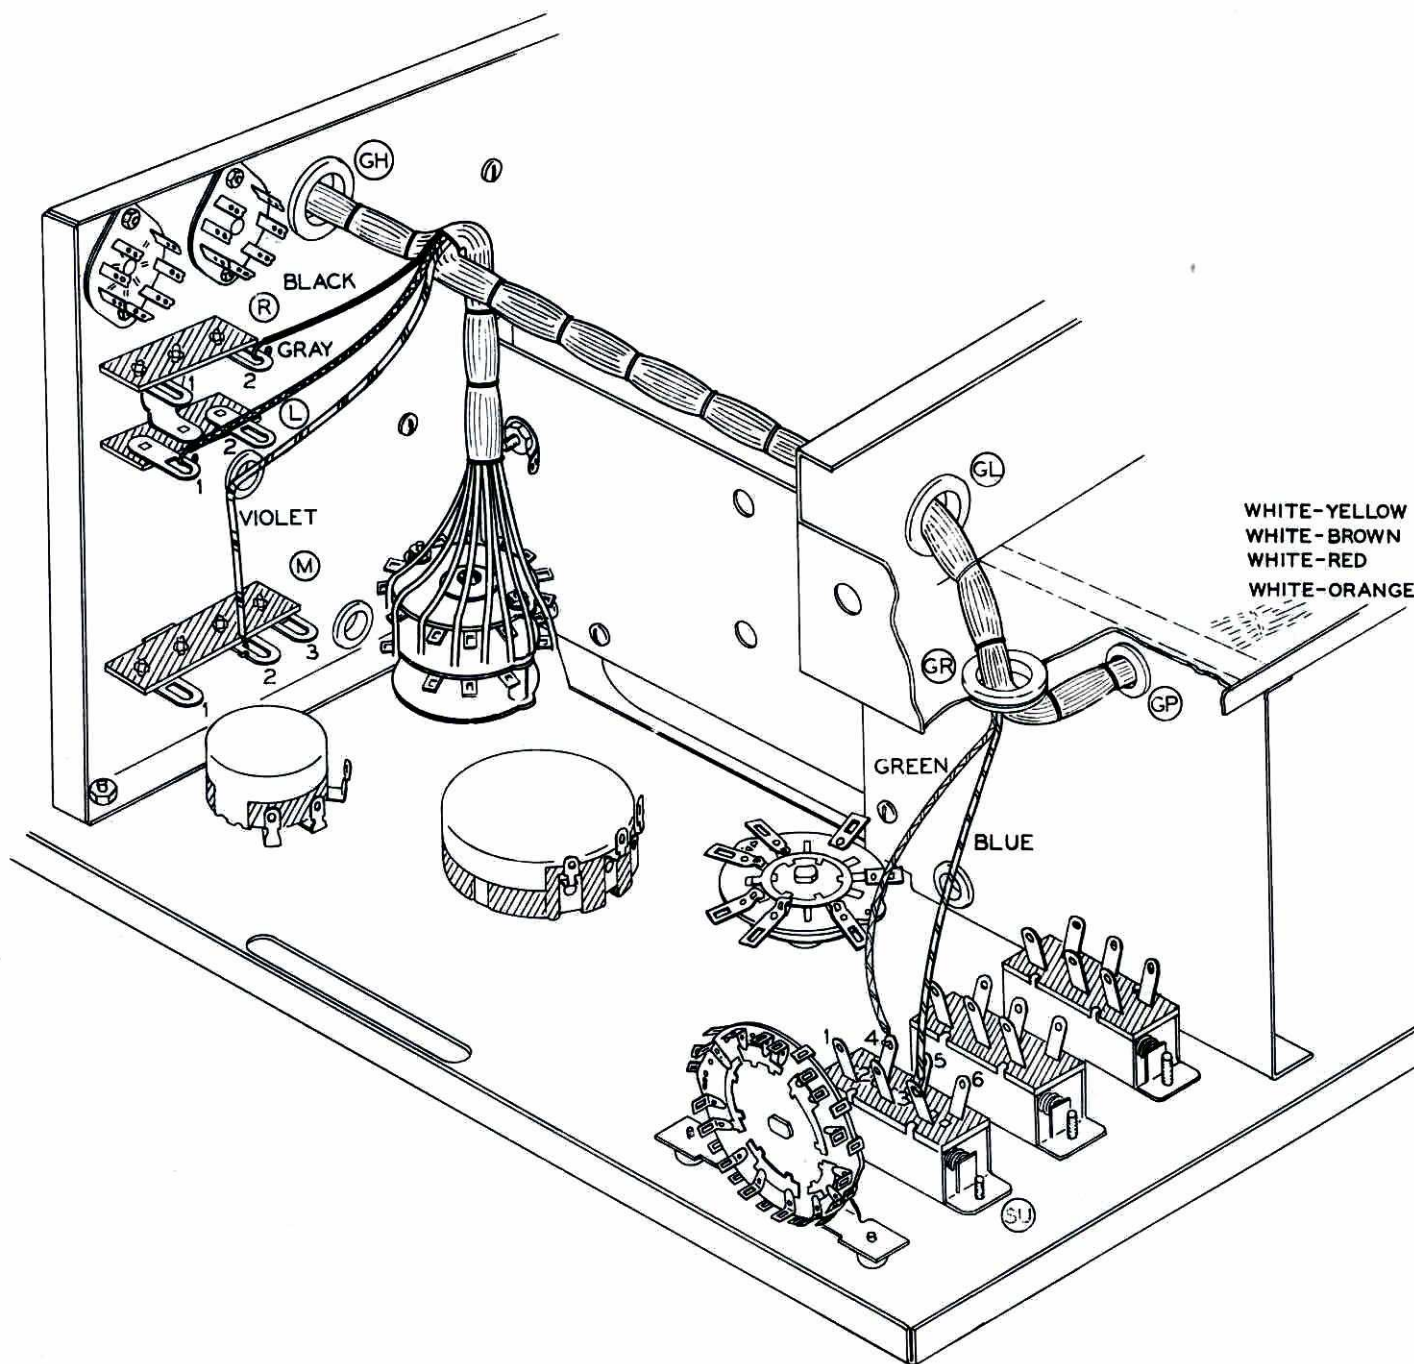

Figure 58
- () Install the switch as shown in Figure 58. Again the #1 terminals should be toward the top of the panel.
Bend the cable as shown in Figures 58 and 59. Pass the leads through their respective grommets.